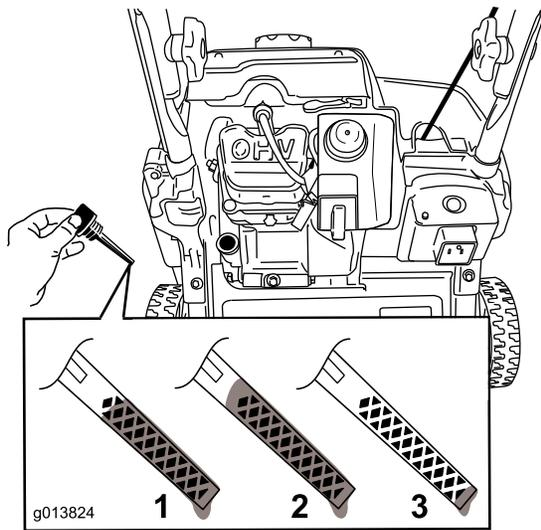

Figure 13
8. To determine the proper oil level on the dipstick, refer to Figure 13.
Note: Fill the engine crankcase with oil until the dipstick indicates that the engine oil level is correct as shown in Figure 13. If you overfill the engine with oil, remove the excess oil as directed in \(page \).